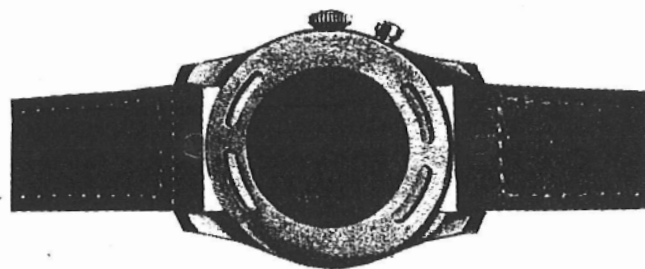

Fig. 8. Back of "Cricket" case showing openings provided to permit sound of inner alarm to be heard.
fashion of the inner lid of a hunting case. A case back (V) is then fitted over the gong. This back has four openings or air gaps (Fig. 8) whose purpose is to allow the sound to escape. Actually, this gong protects the movement from dust. The gong stud is, naturally, located to produce the maximum amount of sound.